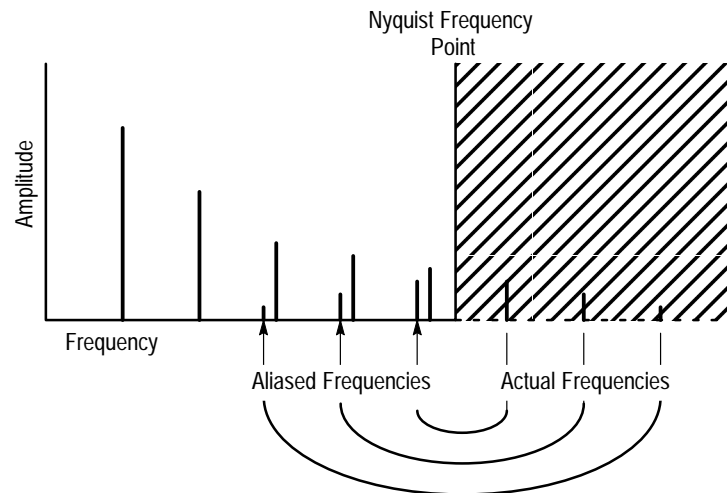

Figure 3–21: How Aliased Frequencies Appear in an FFT
**Establish a Zero Phase Reference Point.** The phase of each frequency is measured with respect to the zero phase reference point. The zero reference point is the point at the center of the FFT math waveform but corresponds to various points on the *source* (time domain) record. (See Figure 3–19 on page 3–34.)